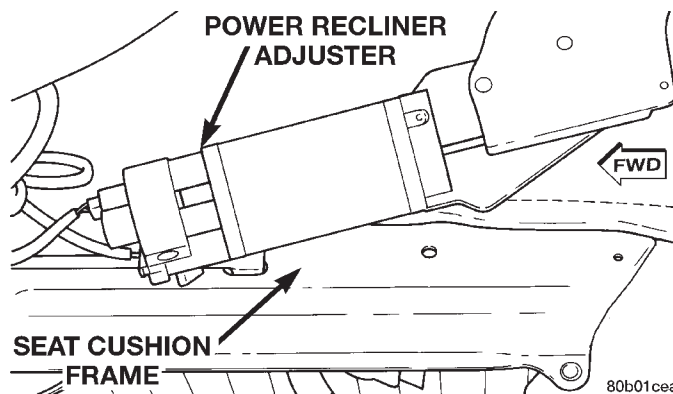

Fig. 5 Power Recliner Adjuster Lower Bracket Remove/Install
(1) Move the seat to its fully forward and fully raised positions, if possible.
(2) Remove the three screws that secure the outboard seat cushion side shield to the seat cushion frame and pull the shield away from the seat cushion far enough to access the power recliner adjuster lower bracket.
(3) If possible, adjust the seat back with the power recliner switch far enough to access both of the two screws in the power recliner adjuster lower bracket.
(4) Disconnect and isolate the battery negative cable.
(5) Remove the two screws that secure the power recliner adjuster lower bracket to the seat cushion frame (Fig. 5).